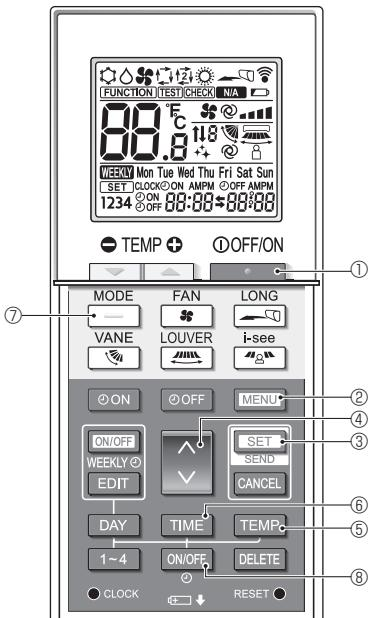

Fig. 6-5
- 1.Press the **TEMP** button ① to stop the air conditioner.
- 2.Press the **MENU** button ②.
- The Function setting screen will be displayed and the function No. Ⓐ will flash. (Fig. 6-5)
- 3.Check that function No. "1" is displayed, and then press the **SET** button ③.
- Press the **SET** button ③.
- The function No Ⓐ blinks (Fig. 6-5)
- Press the **MENU** button ②.